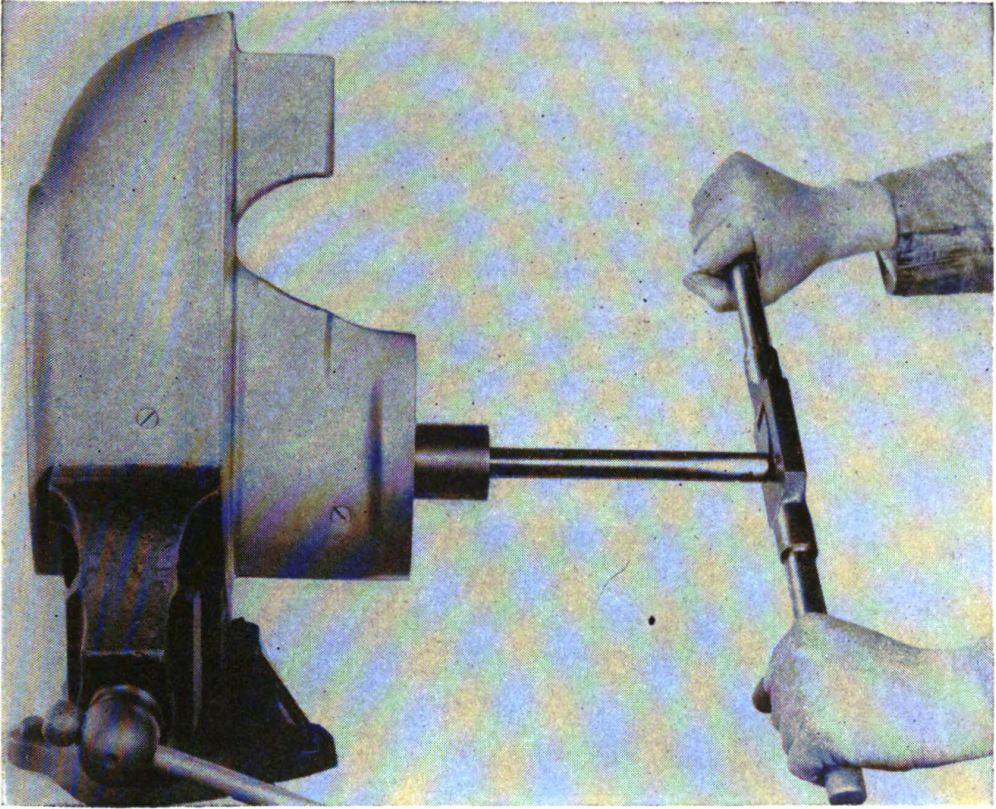

Figure 125. Reaming pinion-shaft bearing.
(3) Place casing in vice to ream bearing as illustrated in figure 125. Ream to size .625 inch with reamer No. S-95, in manner similar to reaming propeller-shaft bearing.